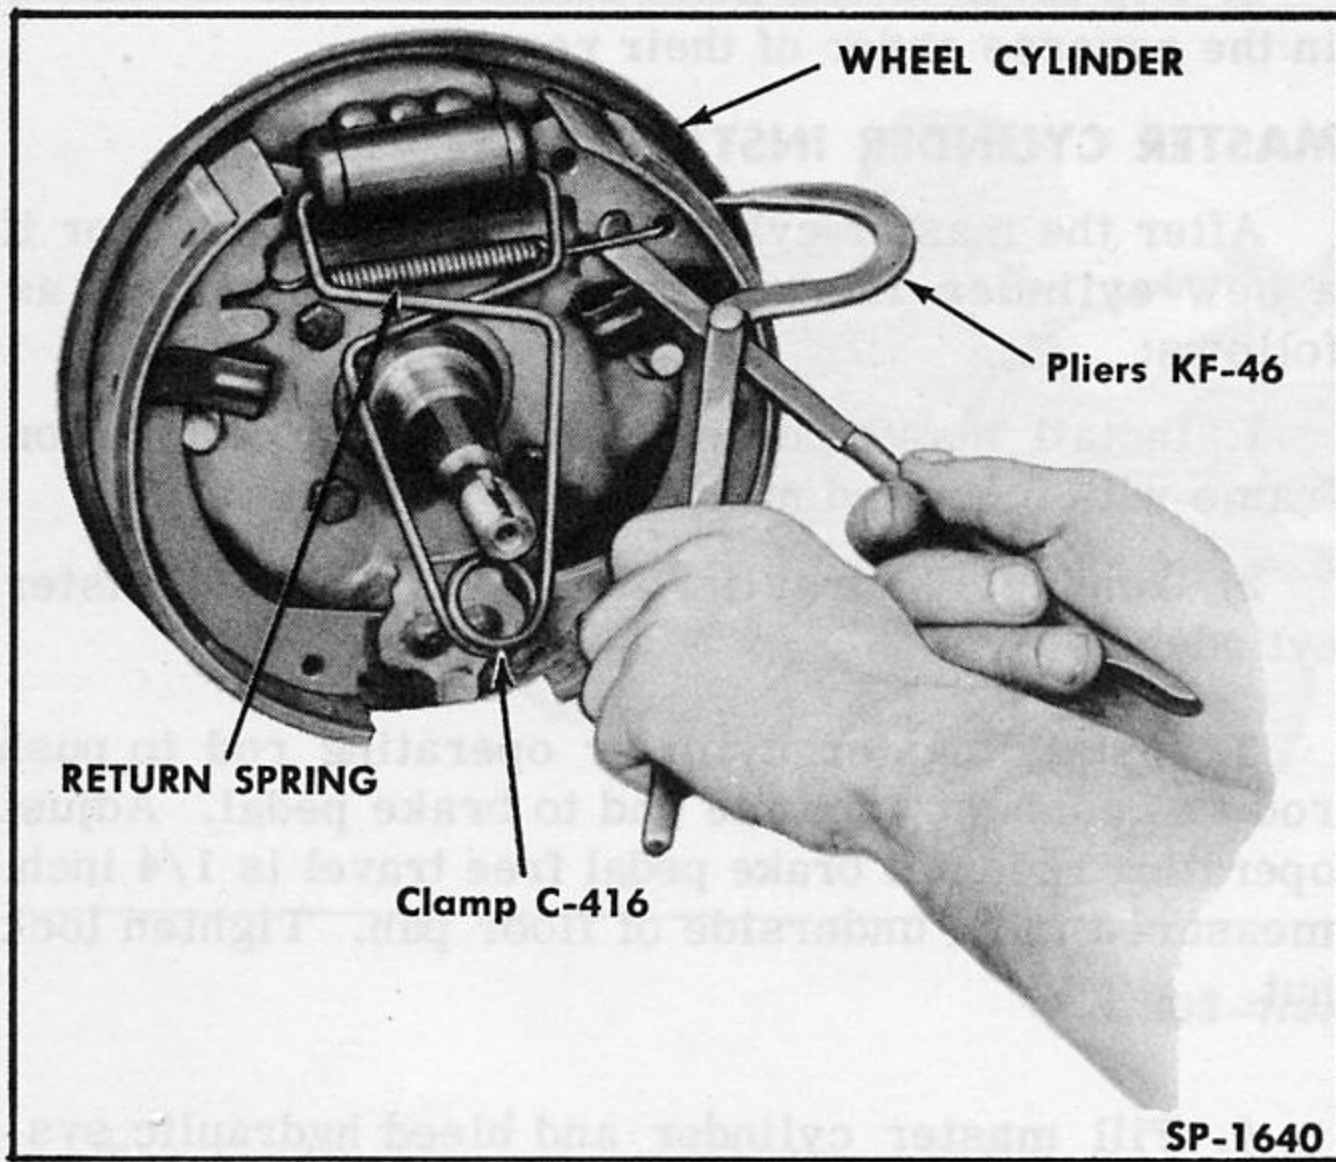

Fig. 206—Removing Brake Shoe Return Spring
3. Install Brake Cylinder Clamp C-416 on brake cylinder (Fig. 206).
2. Install Brake Cylinder Clamp C-416 on brake cylinder pistons as shown in Fig. 206.